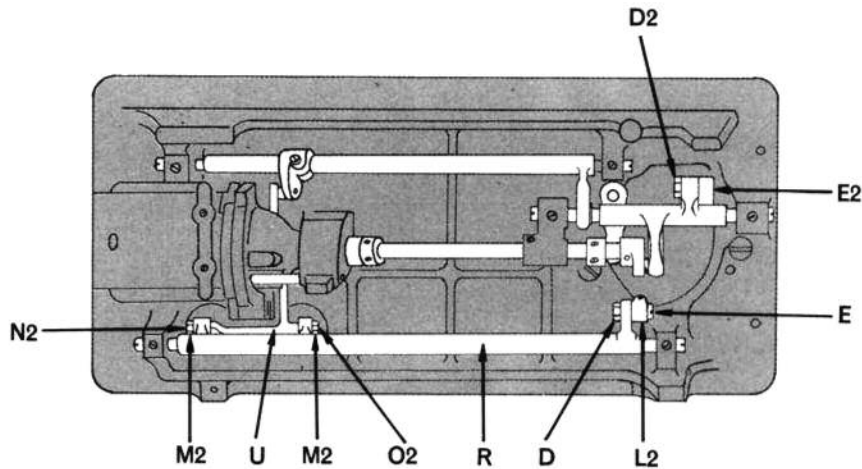

Fig. 27.
REMOVAL: (See Fig. 27)
1. Loosen nut D2, Fig. 27, page 17, and remove screw stud E2, Fig. 27, page 17.
3. Replace screw stud E2, Fig. 27, page 17, engaging connecting rod with oscillating rock shaft.
#### REMOVAL: (See Fig. 27, page 16)